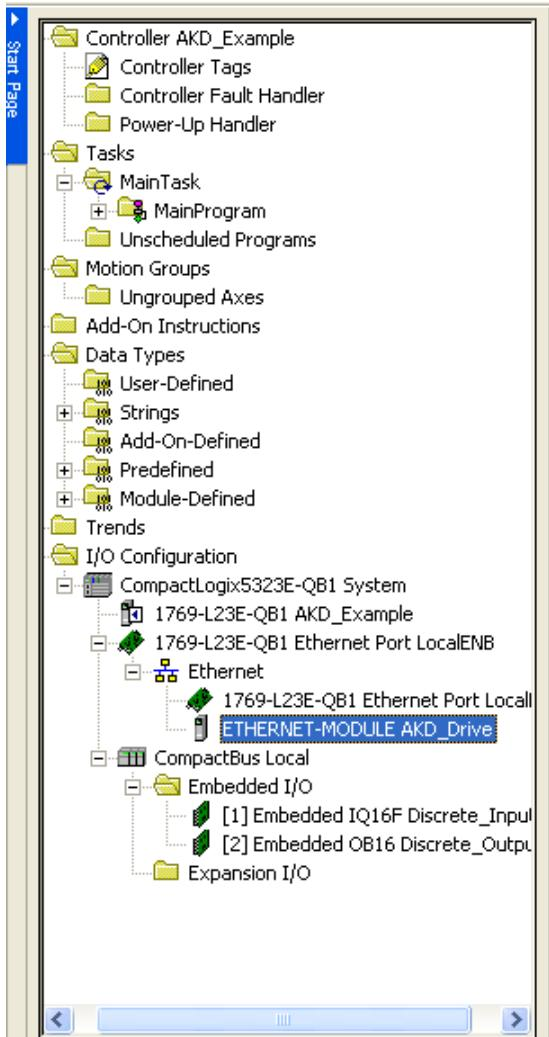

Figure 4-5: Module Successfully Added to Project
- The drive should now be configured and will show up under the Ethernet Port (Figure 4-5: Module Successfully Added to Project)